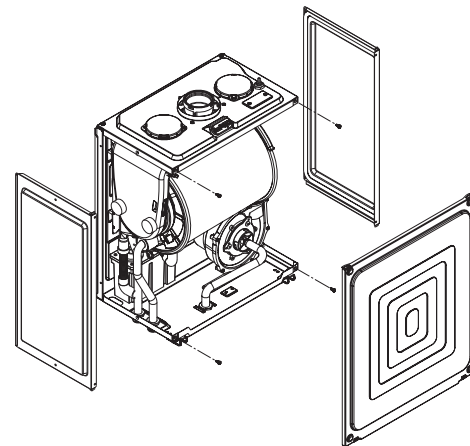

Fig. 21
6.4.1 AIR BOX FRONT COVER REMOVAL (fig. 21)